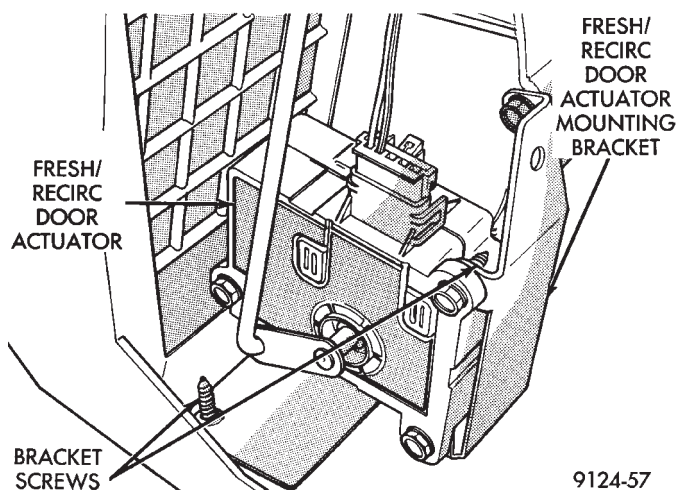

Fig. 7 Actuator Mounting Bracket Removal and Installation
- (6) Remove two screws mounting the actuator mounting bracket to the A/C-heater case (Fig. 7).